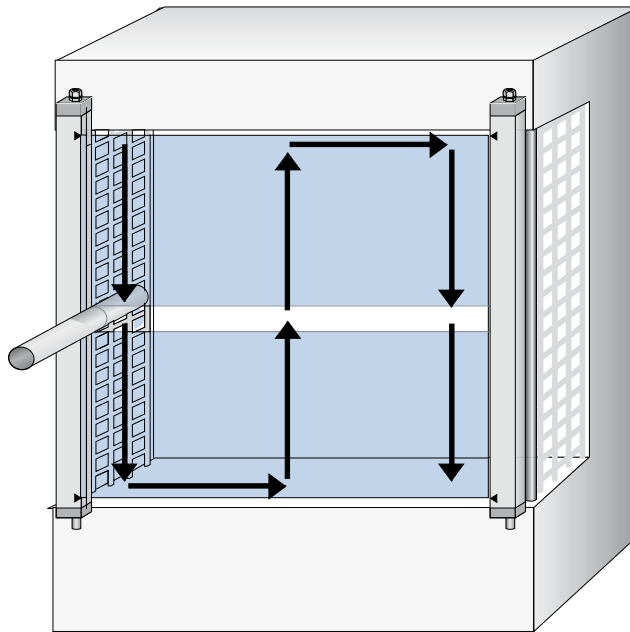

Figure 29: Daily checks of the protective device: Step 1
- ▶ Move the test rod slowly through the protective field to be tested as indicated by the arrow in Fig. 29. Watch the OSSD LED on the receiver during the check. The OSSD LED on the receiver should continuously light up red. The OSSD LED may not light up green.